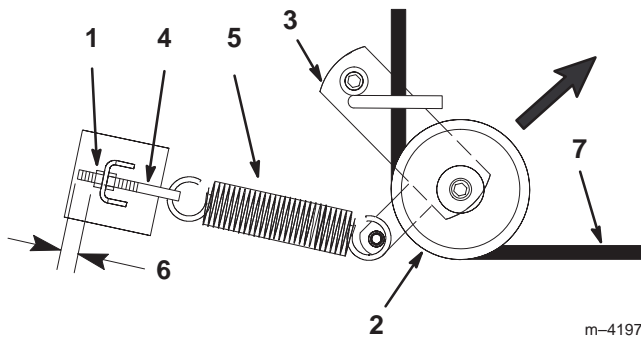
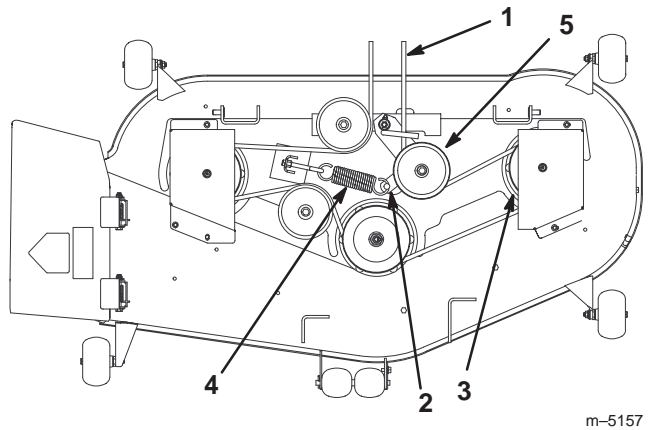

Figure 44
Figure 45
4. Pull the idler pulley in the direction shown in Figure 44 and roll the belt off of the pulleys.
5. Route the new belt through the idler arm and around the idler pulley (Fig. 44).
6. Pull the idler pulley in the direction shown in Figure 44 and route the belt onto the other pulleys (Fig. 45).
Note: Check to ensure that the length of exposed thread on the spring eye bolt is 1/8 in. (3 mm) (Fig. 44).